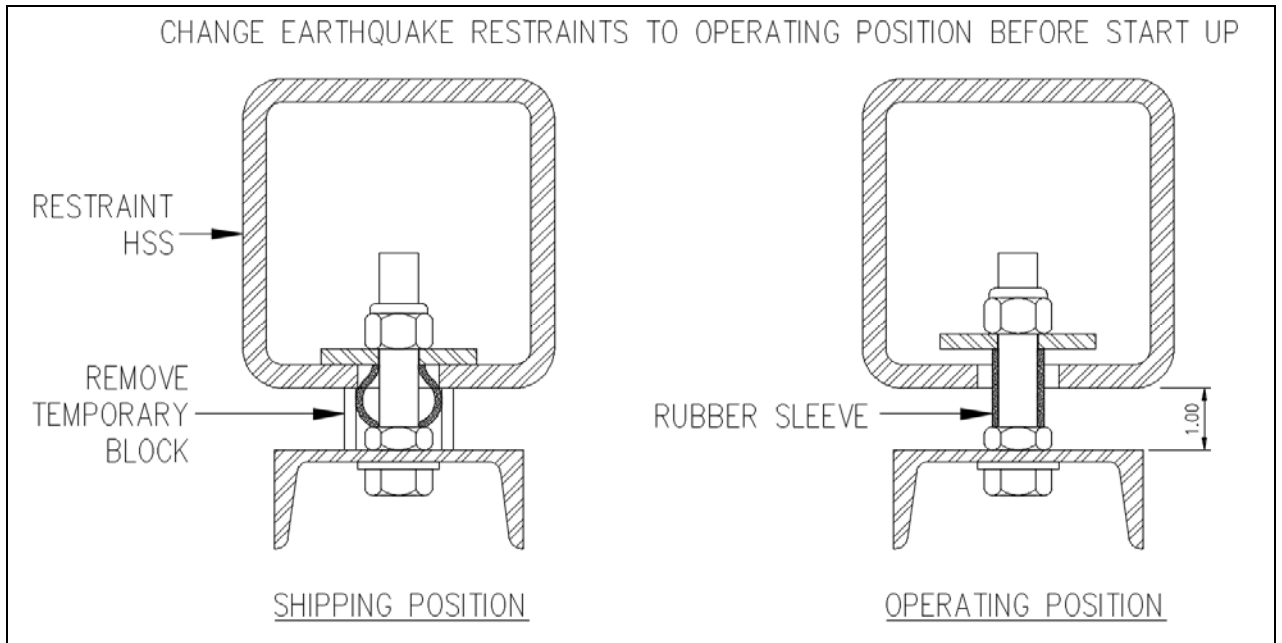

Figure 24: Changing Restraints to Operating Position.
3) Once the earthquake restraints have been changed to operating position, the fan should float freely on its isolators. The operating height of the isolators has been set in the factory but adjustments can be made by rotating the top cap of each spring. Adjust the operating height of the entire fan assembly by moving all of the top caps up or down by an equal amount. More weight can be transferred to an individual isolator by moving its top cap downwards. If, for example, one isolator is compressed too much, adjust its top cap upwards and the top caps of adjacent springs downwards (ref. Figure 24)